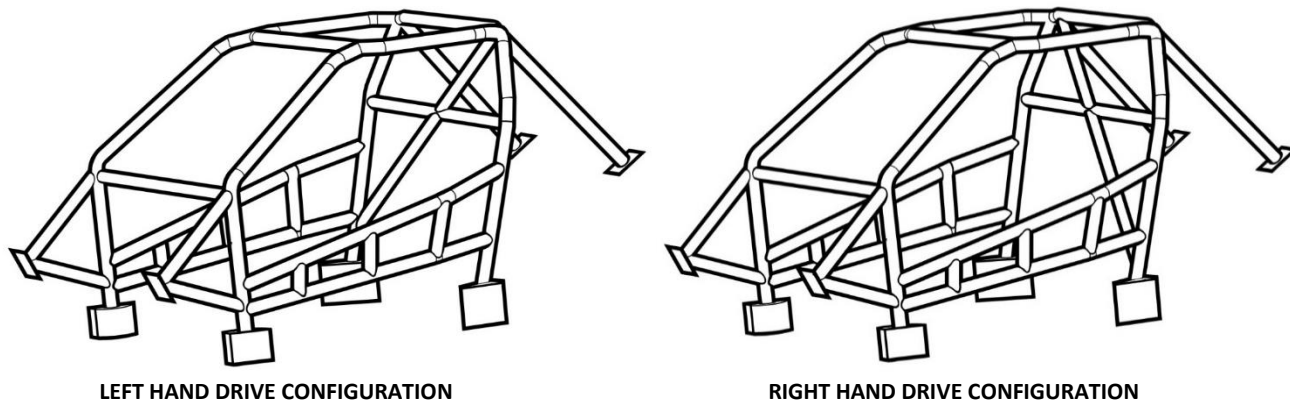

Figure 11
- A. The anti-intrusion bars or wheel intrusion bars are intended for additional foot protection. Refer to Figure 11.